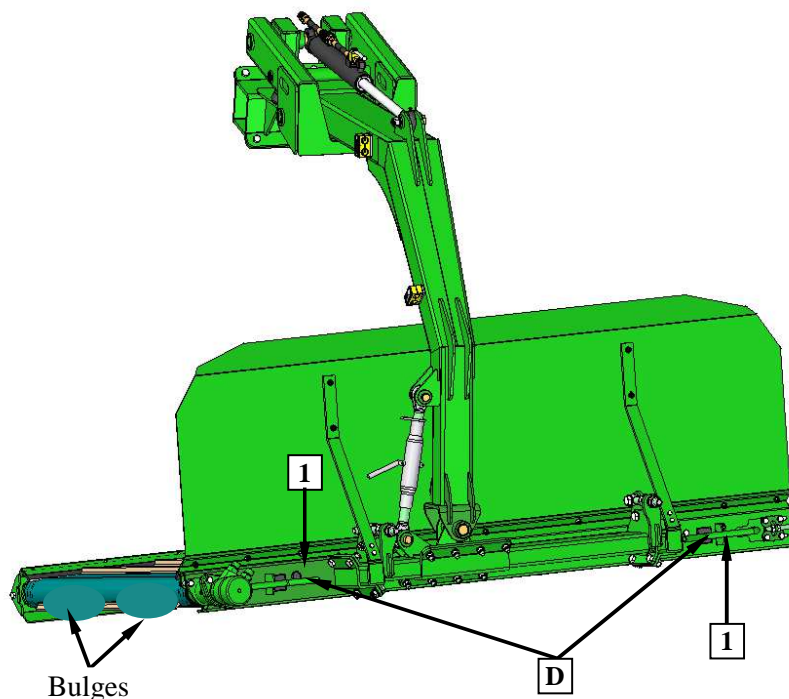

Fig. 27. Cleaning of conveyor rollers
1. In order to clean roller switch lever **D**, rotate belt to **1** and hold down until bulges disappear (**Fig. 27**). This should also be performed from the other side of conveyor if necessary.